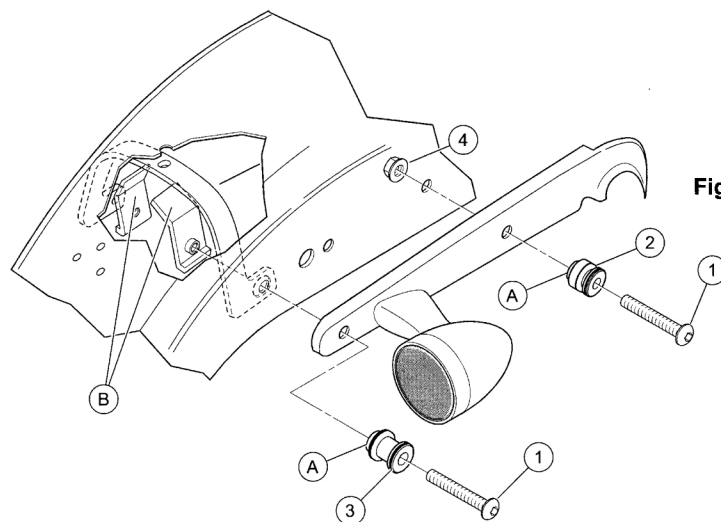

Figure 2. Service Parts: Docking Hardware
See Figure 2 and Table 1.
2. Remove the rear screw (2) and clip nut (4) from the rear-fender support cover. Discard the screw, but retain the clip nut.
3. See Figure 2. Obtain a front docking point (2), screw (1) and locknut (4) from the kit. Note the small-diameter collar on one end of the docking point.